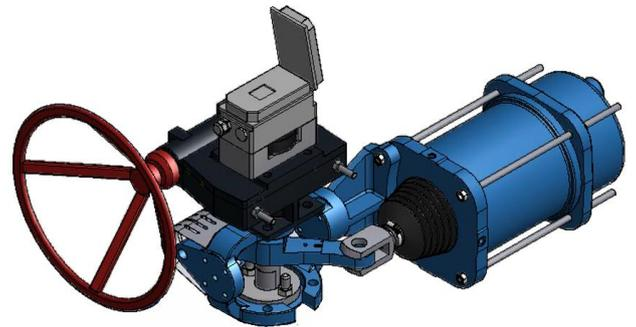

Fig. 8: Actuator with bracket and manual gear
- Manual gear in size R200v and larger (Fig. 8)